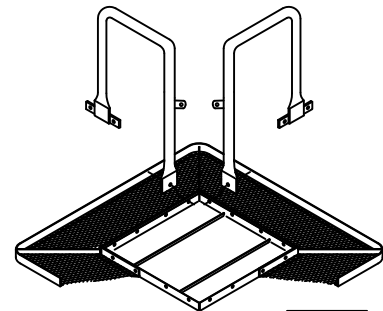

FIG. 1
Invert the (A-) top so it's upside down on a flat surface. Lower game insert (A3) into top. Attach a (C1 and C2) left and right leg to an outside corner of the top's center square mounting frame, see FIG. 1. Secure the top end of each leg to the outside of the top's center square mounting frame, using one per each leg, (F) and (I), using two (H) and one (P) per (F).